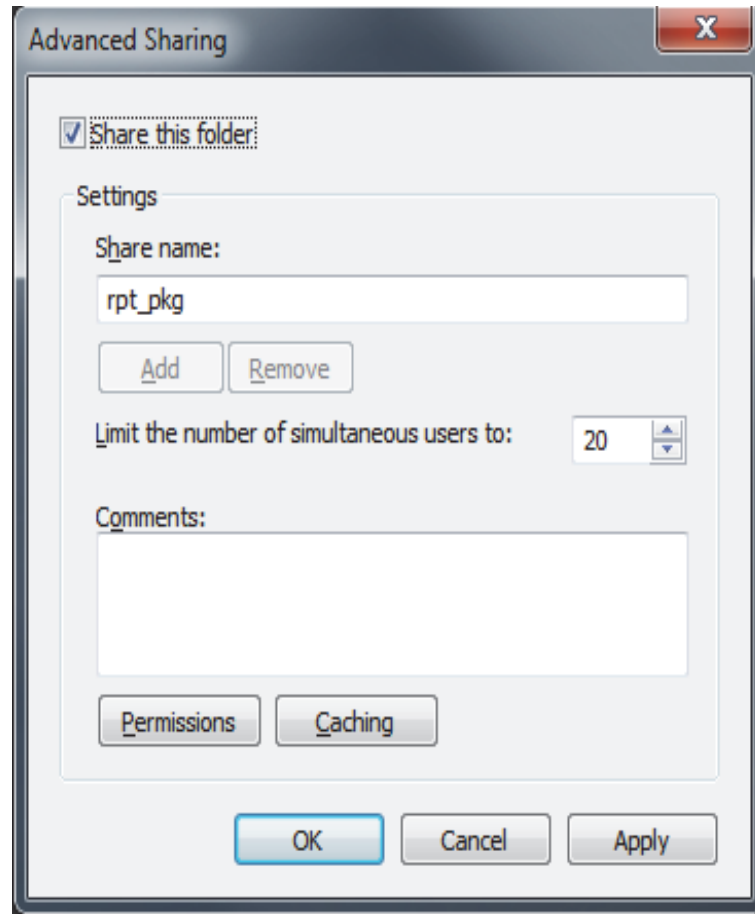

Figure 3-19. Advanced Sharing Dialog Box [Windows 7]
5. The **Permission dialog box** appears (Figure 3-19).